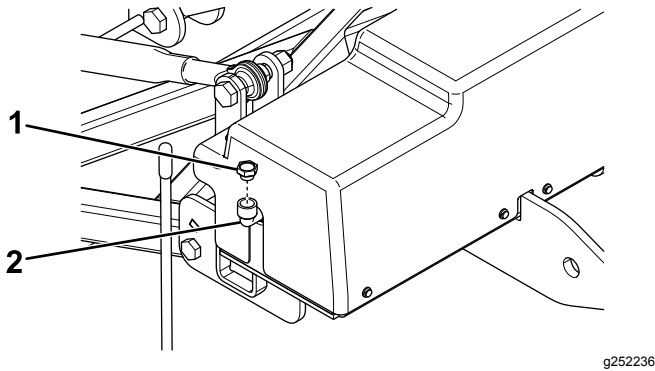

Figure 25
2. Clean the area around the fill cap (Figure 25).
3. Remove the fill cap from the hydraulic reservoir (Figure 25).
4. Slowly fill the reservoir with BOSS high-performance hydraulic fluid to the bottom of the fill elbow (Figure 25).